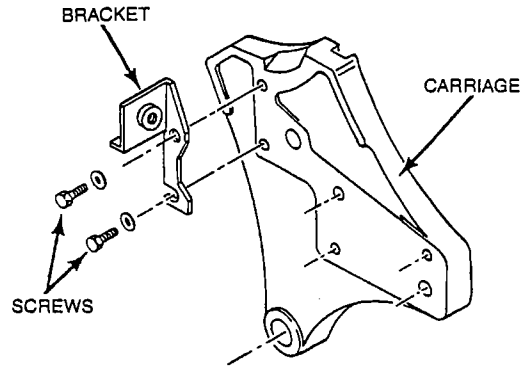

FIGURE 3
1. Insert two screws through bracket, attaching it to inside of saw carriage (see Figure 3). DO NOT tighten screws yet.
3. Secure two screws and bracket (Figure 3) to inside of saw carriage.